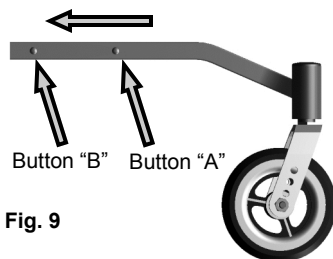

Fig. 9
- Press button "B" on the cruiser wheels and slide into frame receiver until it is through the receiver tube (fig. 9). Press button "A" and slide tube rearward until the button snaps into the center hole in frame receiver tube.